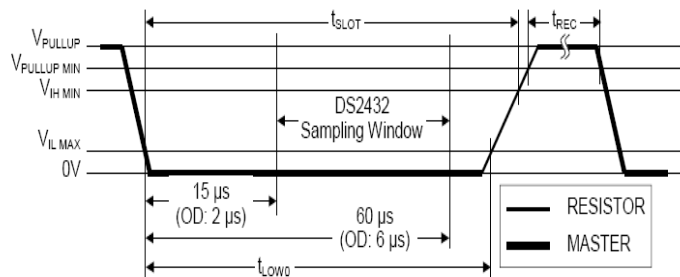

Fig4-98 - Write-zero Time Slot
- (1) To initialize Write Data, Master will convert the Data Line from the high logic to the low.
- (2) There are two types of Write time slot: Write 1 time slot and Write 0 time slot.
- (3) During a write cycle, all Write time slots must have duration of at least 60us and a recovery period of 1us.
- (4) When the I/O line goes down, Slave devices create samples from 15-60 us.
A. Write 0: If the sampling is low, 0 is generated as in Fig4-98: